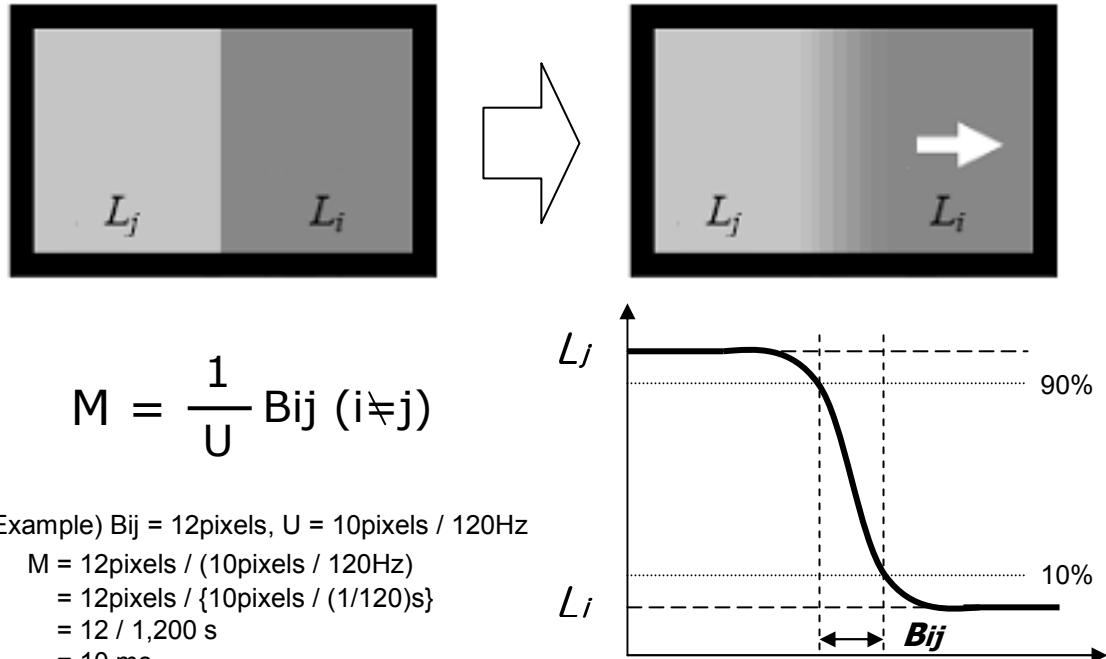

FIG. 4 MPRT
5. MPRT is defined as the 10% to 90% blur-edge width $Bij(\text{pixels})$ and scroll speed $U(\text{pixels/frame})$ at the moving picture. For more information, see FIG. 4